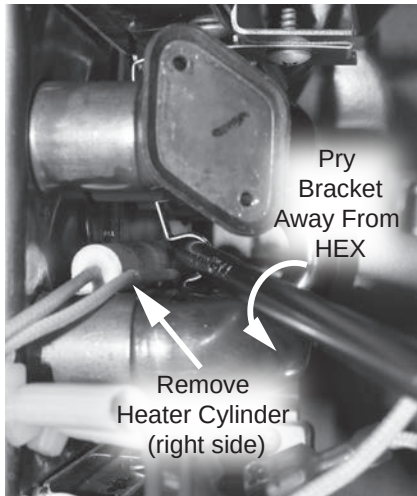

Figure 147 - Removing primary HEX heating cylinders
- 39 Use a Phillips screwdriver to gently pry the flexible brackets away from the HEX to allow space for the heater cylinders and wires to slide out. Remove the two heater cylinders. See Figure 147.